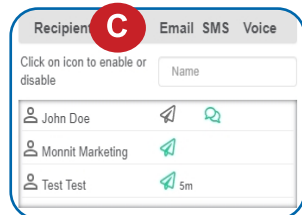

Figure 16
C. Recipient list identifies who will receive the notification. See Figure 16.